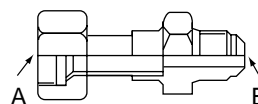

Fig.7-1
**Different-diameter joint (optional parts) (Fig.7-1)**